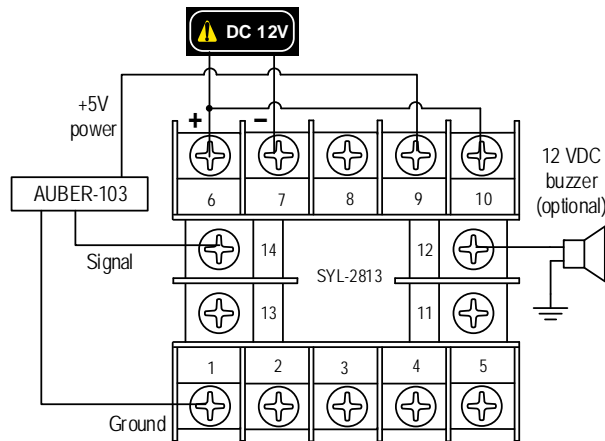

Figure 1. SYL-2813 wiring example of AUBER-103 pressure sender in Channel 2.
- 1) Wiring the sensor as shown in Figure 1. Connecting power lead (red or brown) to terminal 9 which provides +5V DC, signal lead (green or blue) to terminal 14 for Channel2, and ground lead (black) to terminal 1. The 12V DC buzzer is optional.